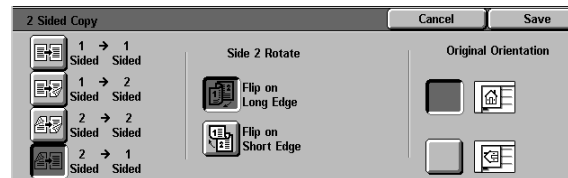

Figure 6: 2 to 1 Sided Copying option
- **2 to 1 Sided** button for 1-sided copies from 2-sided originals, as illustrated in Figure 6.